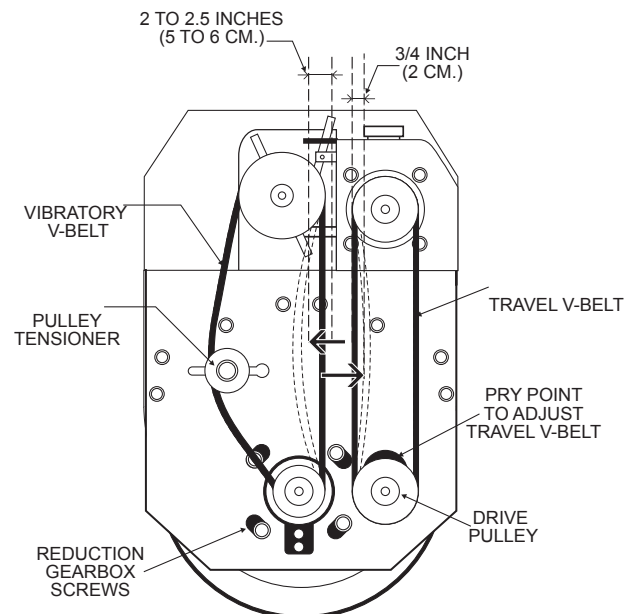

Figure 38. Travel and Vibratory Belts
7. Unlock the hood retaining latch and lift the hood to gain access to the V-belts. To adjust the **travel** V-belt, loosen the four mounting screws on the reduction gearbox (Figure 38).
- Use the pry point (Figure 38) to achieve correct amount of V-belt tension. Tighten gearbox screws and check belt tension by verifying the amount of deflection when the belt is pressed midway between the two pulleys. This deflection should be approximately 3/4 of an inch (2 cm.).
- To adjust the vibratory V-belt, loosen the pulley tensioner nut (Figure 38) and adjust the V-belt for approximately 2 to 2 1/2 inches (5 to 6 cm.) of deflection.